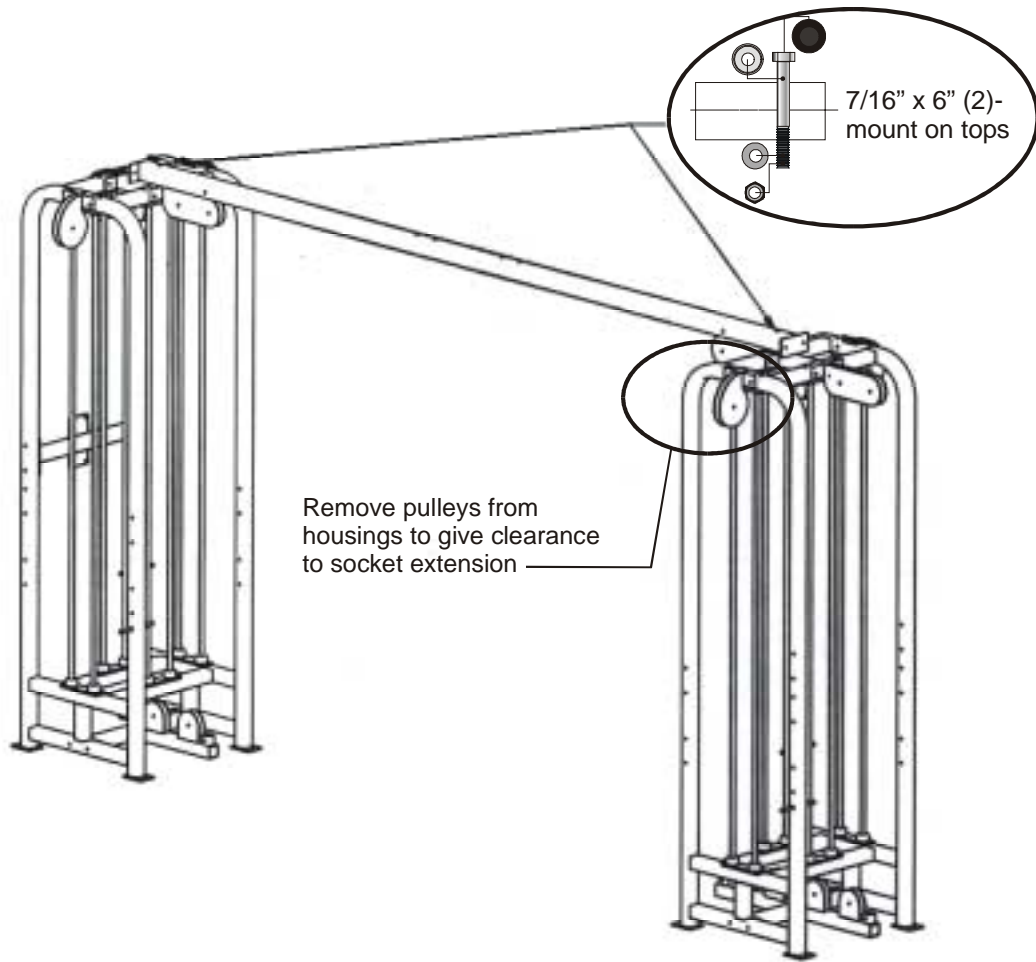

Figure 6. Bolt on the connecting beam.
3. Using a 5/8" socket with long extension and combination wrench, bolt on the connecting beam to the cubes using two of the large 7/16" x 6" bolts, 7/16" washers, and 7/16" nuts, end cap washers and end caps. Figure 6 shows the connected cubes. You will need to remove the pulleys from the teardrop pulley assemblies to gain clearance for the socket wrench extension. Leave the pulleys out of the housings until the cables have been installed.
Hardware Figure 6. Weight stack rubber bumpers.